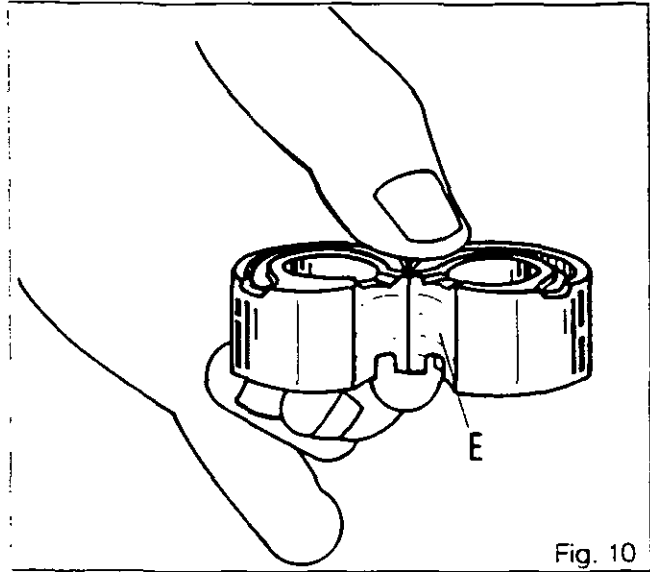

Fig. 10
72. Push the seal ring (20) in the plate (21) and fit the circlip (19).
**Note: The bearing assemblies have different forms. The intermediate bearing assemblies (11) and (31) have a recess «E» (Fig. 10) for oil to pass to the low-pressure stage (37).**